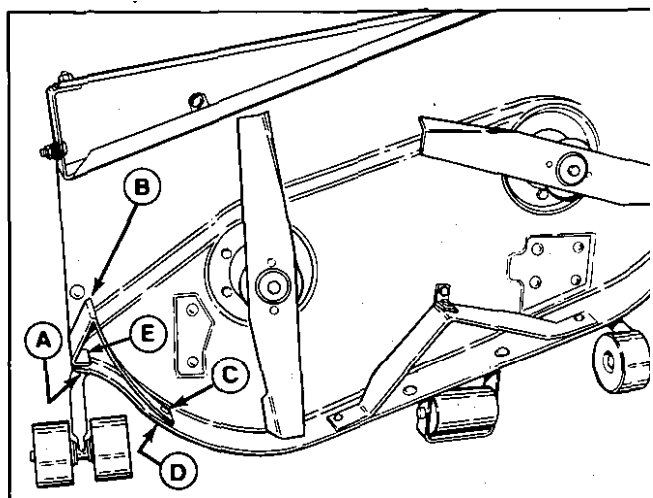

Figure 4.
5. Install the baffle (B, figure 4) as shown. Install retainer nut (E) in baffle, then screw the  $\frac{1}{4}$ " whizlock screw (A) into retainer nut. Insert  $\frac{1}{4}$ " carriage bolt (C) from inside deck and install lockwasher and nut (D).